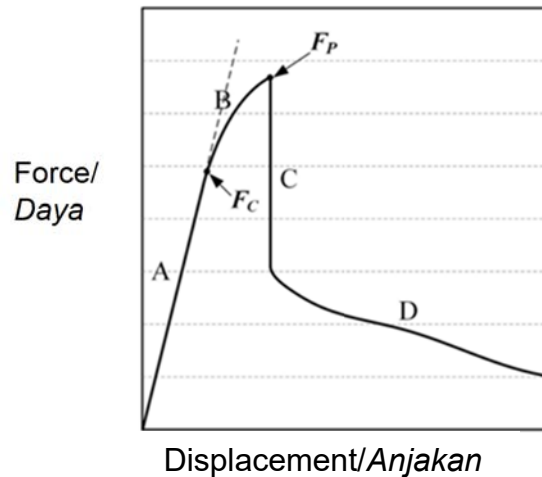

Figure 1: Force-displacement curve of a fiber pullout test.
- (c). **Figure 1** shows the relationship between force and displacement that was obtained from a fiber pullout test.